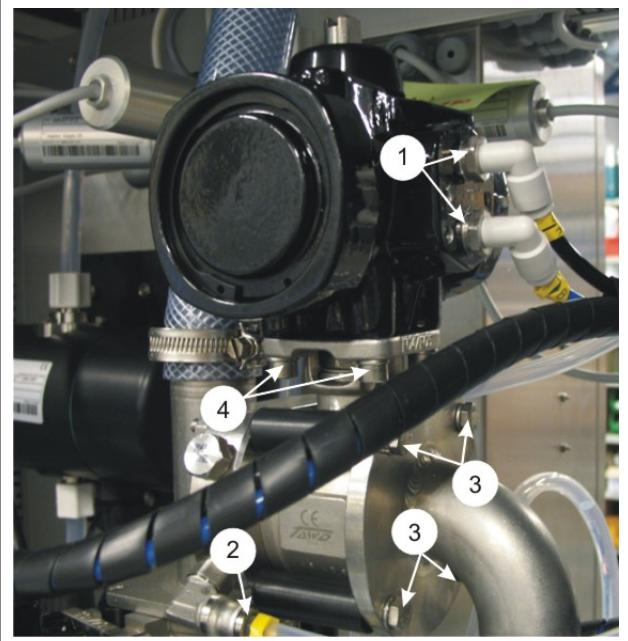

Fig. 11. Replacing the MARS valve and actuator.
3. Detach the air tubes (Fig. 11, part 1) and water tube (part 2).